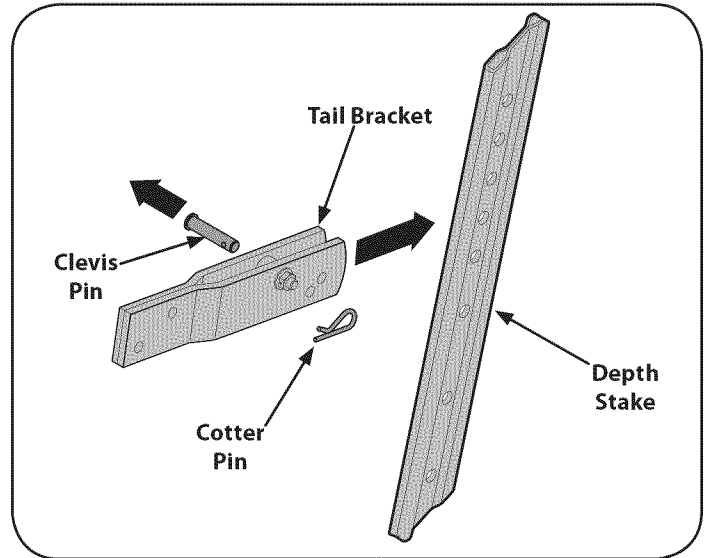

Figure 5
1. Disassemble the depth gage assembly. See Figure 5. Retain the pin and clip for later reassembly.